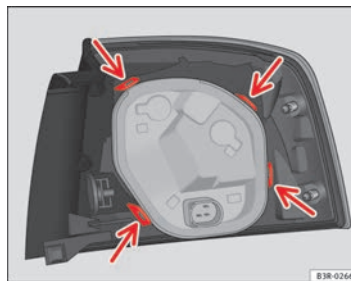

Fig. 229 Securing the bulb holder in the tail light unit
- Check that all four retaining tabs ⇒ page 283, fig. 229 -arrows- have engaged.